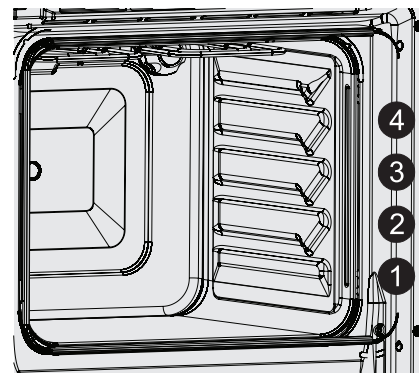
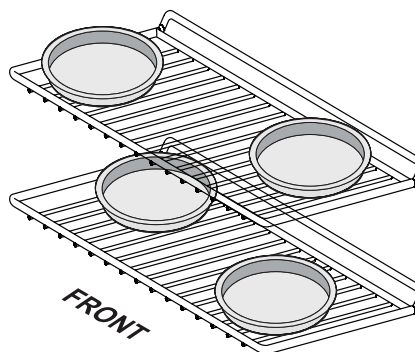

Figure 14: Oven rack positions
Figure 16: Baking with multiple levels & racks
- For best results when baking with one oven rack, place racks in positions 2 or 3 (Figure 14).
- For best results when baking cakes or cookies using two oven racks, place racks in positions 1 and 3 (Figure 14) and place pans as shown in Figure 16.